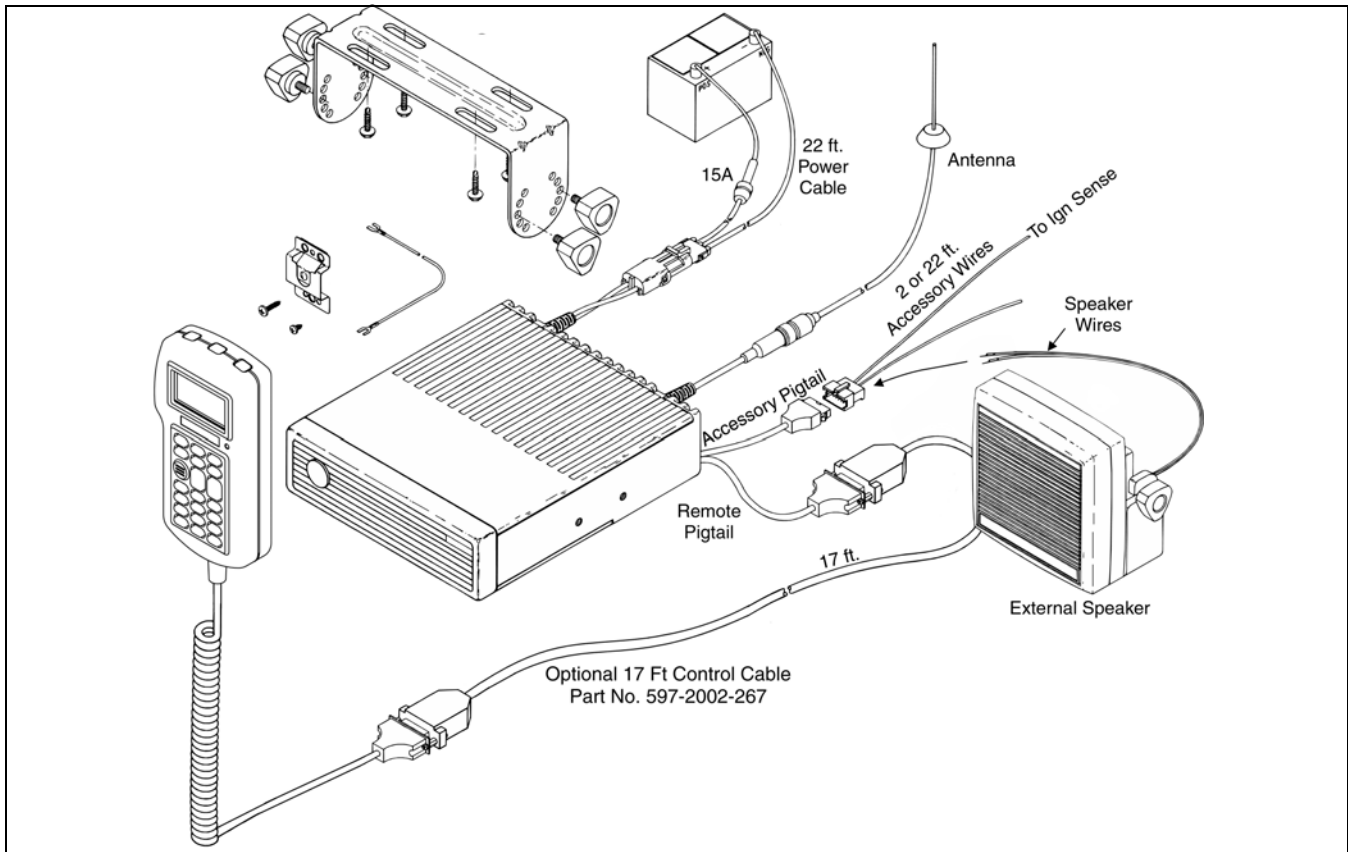

Figure 2-11 HHC Installation Components (Junction Box Not Used)
Junction Box Not Used (Figure 2-11)
2. Route the 17-ft. control cable from the remote pigtail of the transceiver to the control unit as shown in Figure 2-11. Secure the connectors using the captive screws.